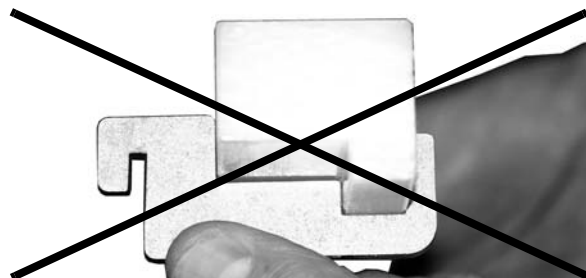
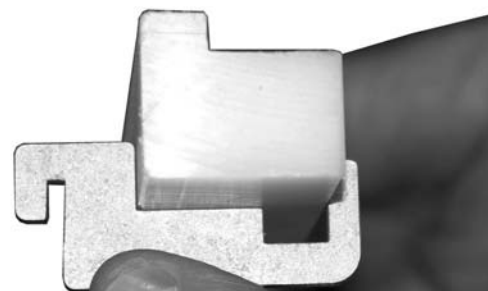

Figure 24
Figure 25
3. Verify that belt returns are mounted correctly by following graphic below (**Figure 24**) shows incorrect mounting and (**Figure 25**) shows correct mounting.